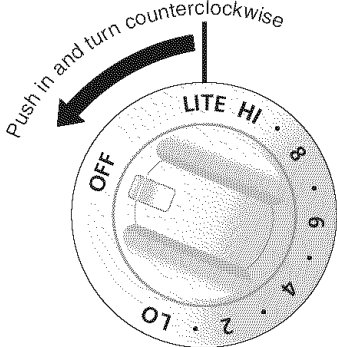

Figure 3
3. Release the knob and rotate to the LITE position (see figure 3). Note: All four electronic surface ignitors will spark at the same time. However, only the burner you are turning on will ignite.